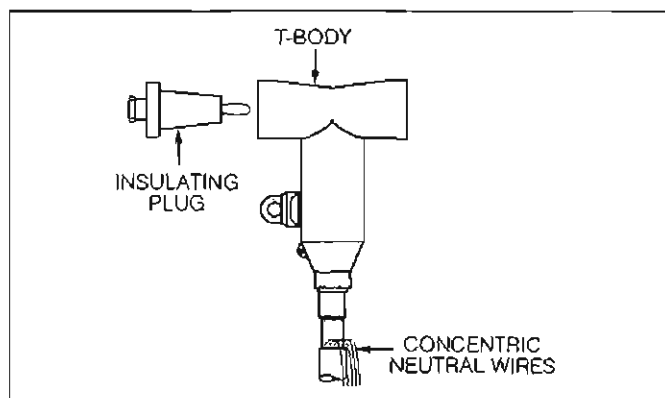

Figure 12.
- Clean and lubricate mating interfaces of T-Body and mating parts (i.e., insulating plug, reducing well plug or deadbreak tap plug). (Refer to Figure 12.)